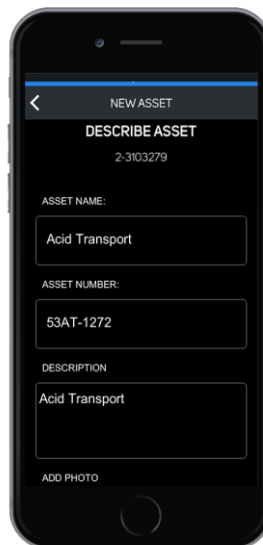

FIG. 2
- 4) Next, fill in the information for the asset in the “Describe Asset” screen as shown in FIG. 2.